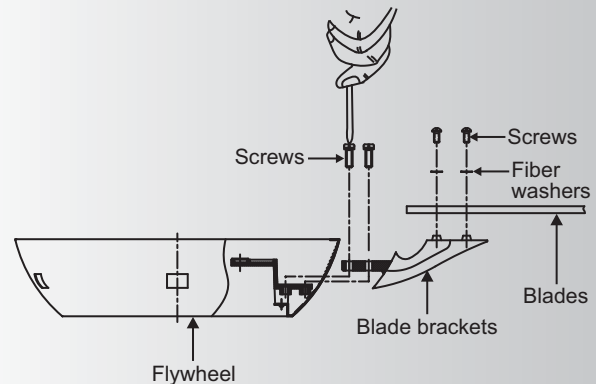

Fig. 16
Step 1. Insert blade bracket through one of the slots from the flywheel. Align holes from blade bracket and flywheel and secure with the screws provided. Tighten each screws securely starting with the center screw. Make sure the blade bracket is straight. (Fig. 16)
Step 3. Attach a blade to a blade bracket using the screws and fiber washers provided. (Fig. 16)